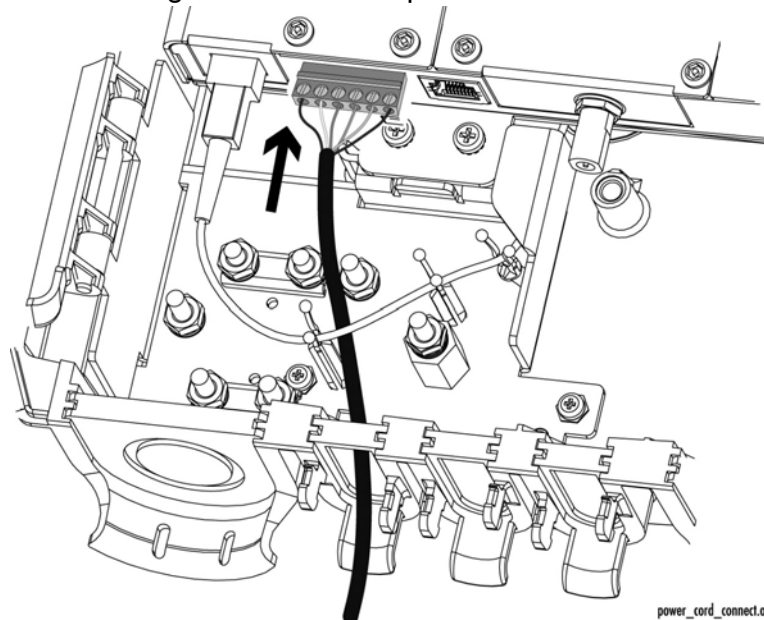

Figure 8. Plugging in the DC Terminal Block (Pigtail already installed)
Connect the pigtail (installed as part of the Enclosure installation procedure) to the WAN fiber port of the electronics unit. Refer to Figure 8.
4. Plug the terminal block into the DC power socket, as shown in Figure 8.